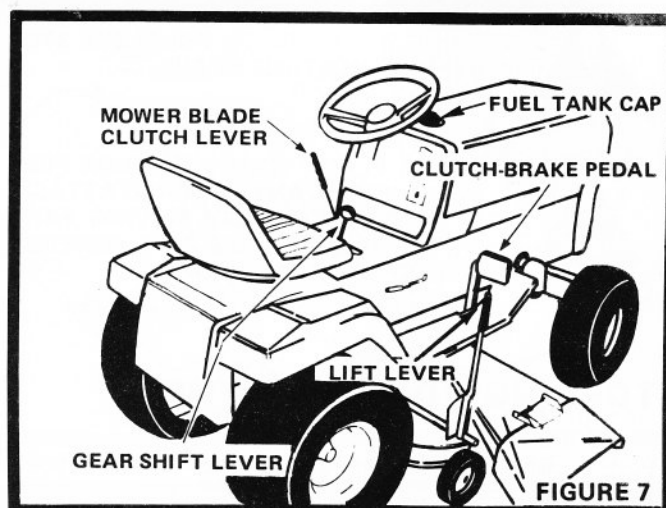
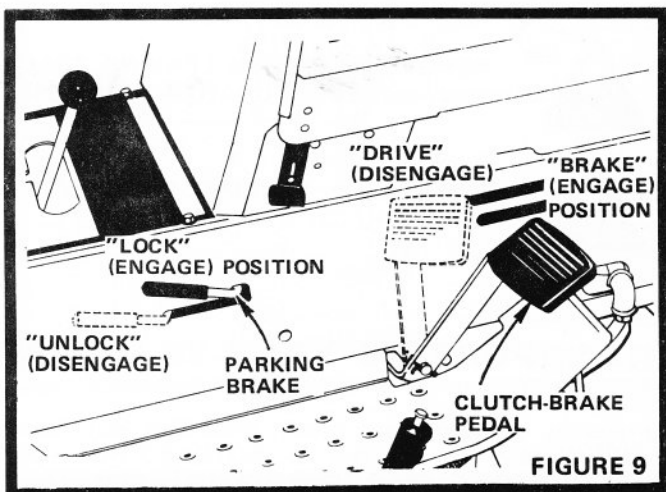

FIGURE 7
FIGURE 9
2. Fill Fuel Tank (Fig. 7) with fresh regular grade lead-free or leaded gasoline. Capacity is 1 gallon. NOTE: DO NOT SWITCH FROM LEADED TO LEAD-FREE GASOLINE.
THIS TRACTOR IS EQUIPPED WITH SAFETY SWITCHES TO PREVENT STARTING OF THE TRACTOR ENGINE WHILE THE MOWER BLADE CLUTCH LEVER IS IN THE "ON" POSITION (FIG. 7) AND THE CLUTCH BRAKE PEDAL IS IN DRIVE POSITION (FIG. 9).
1. Disengage Mower Blade Clutch Lever (Fig. 7).
2. Push Clutch-Brake Pedal fully into brake position and "LOCK" (Engage) Parking Brake (Fig. 9).
2. Push Clutch-Brake Pedal down firmly, in Brake position and "UNLOCK" (Disengage) Parking Brake (Fig. 9).